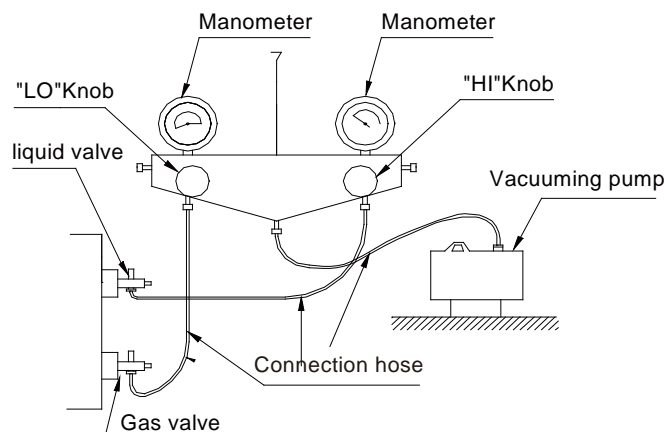

Fig 10
(3) As shown in the following figure (Fig. 10), remove the refrigerant inside the indoor unit and refrigerant pipe out with the vacuum pump.